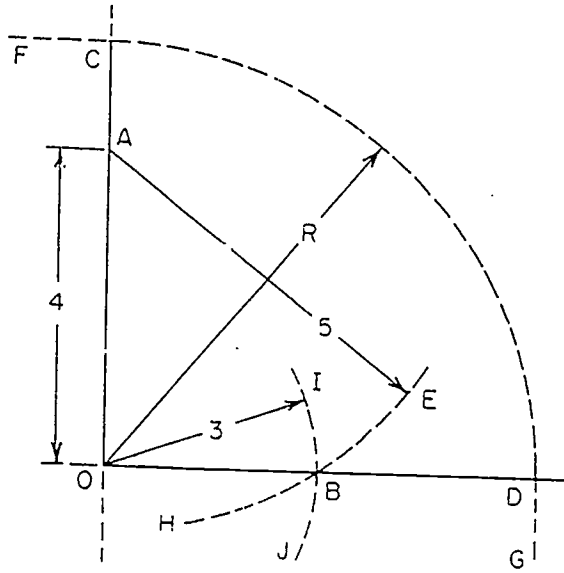

Fig. 9-49 Laying out a right angle.
- 98. Laying out a right-angle conduit bend.** Draw a chalk-line diagram of the contour of the bend on the floor as follows (See Fig. 9-49): Draw a base line CO of any length. Lay off AO 4 units long. (The units may be of any dimensions). With a cord and a piece of chalk with O as a center and a radius of 3 units describe the arc IJ. With A as a center and a radius of 5 units describe the arc EH. The line OD drawn from O through B, the intersection of two arcs, will be at right angles with CO. CO and OD can now be prolonged for any distance. The arc CD is drawn with the cord and chalk with any required radius R. The conduit bend should lie parallel to this arc when the bend is laid on the floor for inspection.